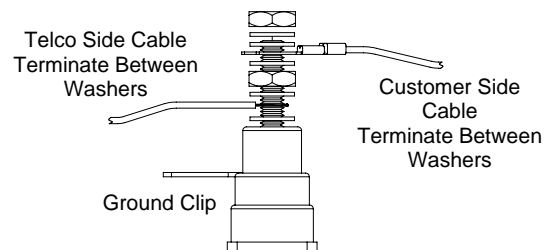

Figure 1
3. Terminate the Telco Side cable (i.e., aerial or buried drop) in between the bottom set of washers and bottom nut of the appropriate stud (one conductor to Tip and one to Ring). Tighten down the nut (Figure 1).
4. Terminate the Customer Side cable under the top set of washers and the top nut of the appropriate stud (one conductor to Tip and one to Ring). Tighten down the nut (Figure 1).